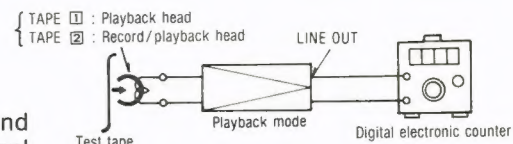

Fig. 7
1. Make connections as shown in fig. 7.